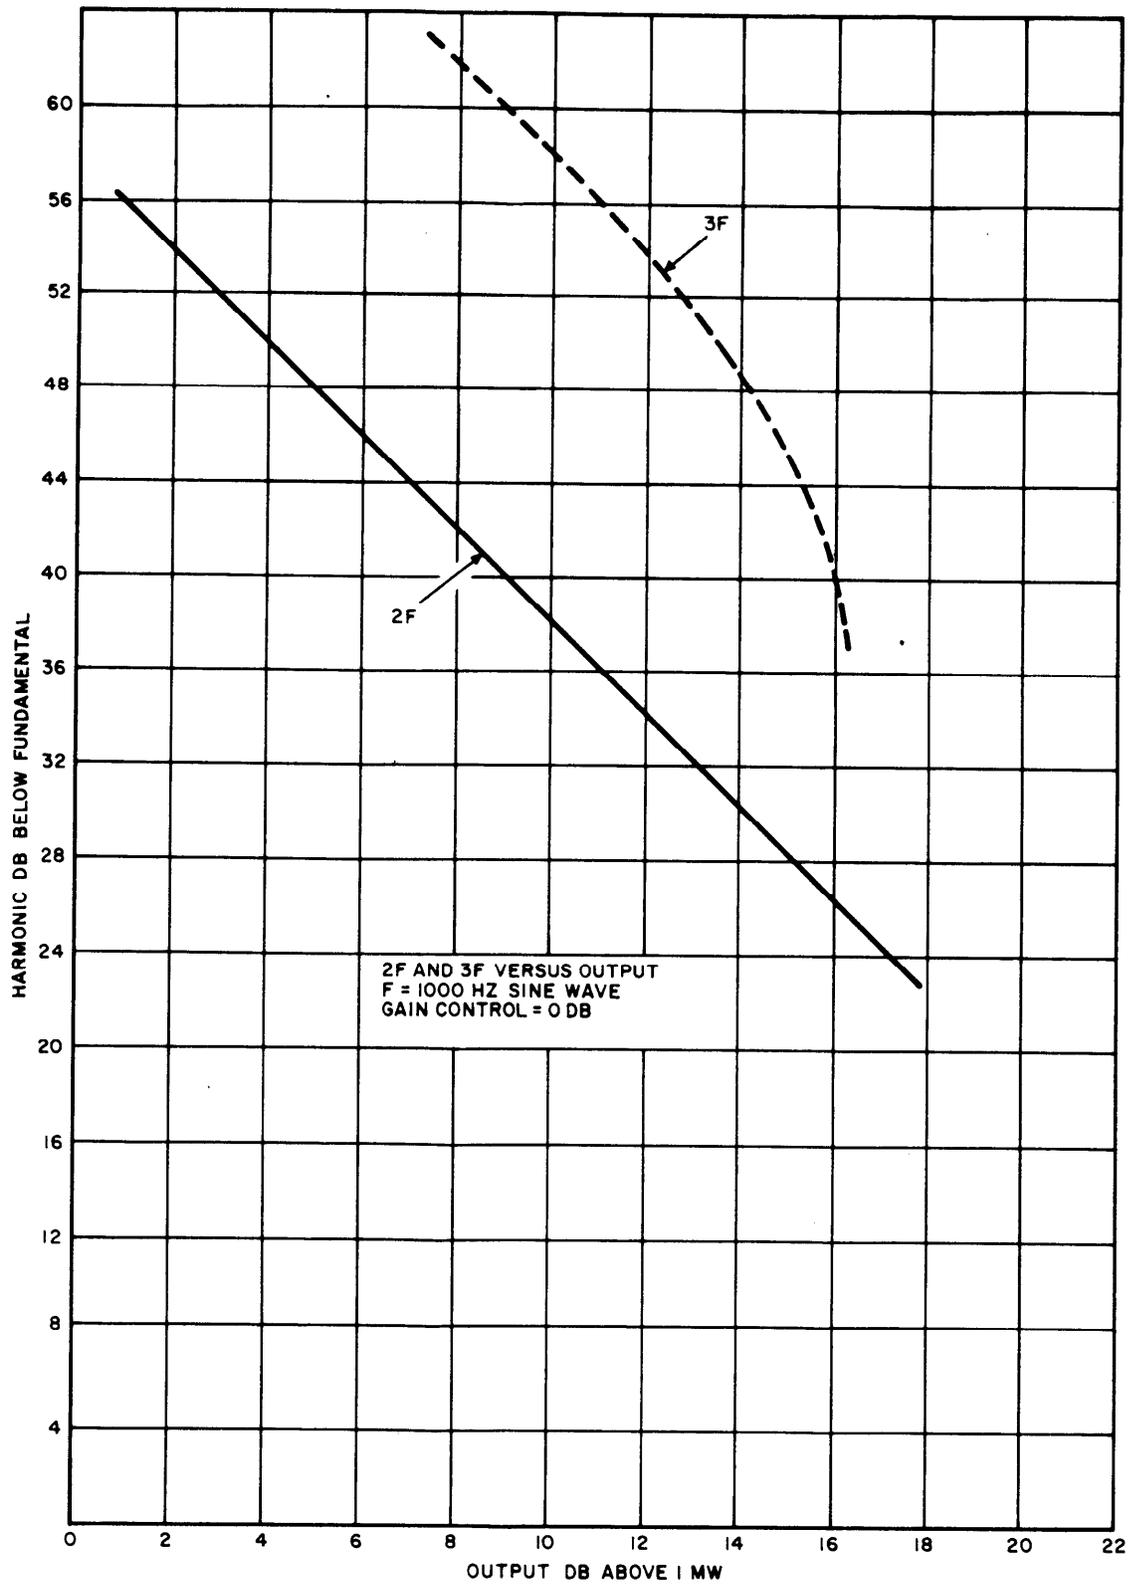

Fig. 6—Harmonic Content of KS-20378 Amplifier
4.03 The second- and third-order harmonic distortion versus the output power of the fundamental is shown in Fig. 6. The curves are for the amplifier